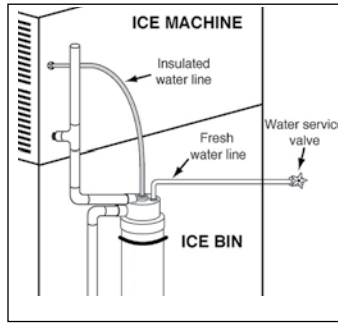

Figure 7.
- Insert the tubing containing the fresh water source into the Fresh Water Inlet on the Chill ICE (connection #1). If additional tubing is needed between the Chill ICE and the wall outlet or water filter, be sure to connect the tubing with a compression union (Figure 7).